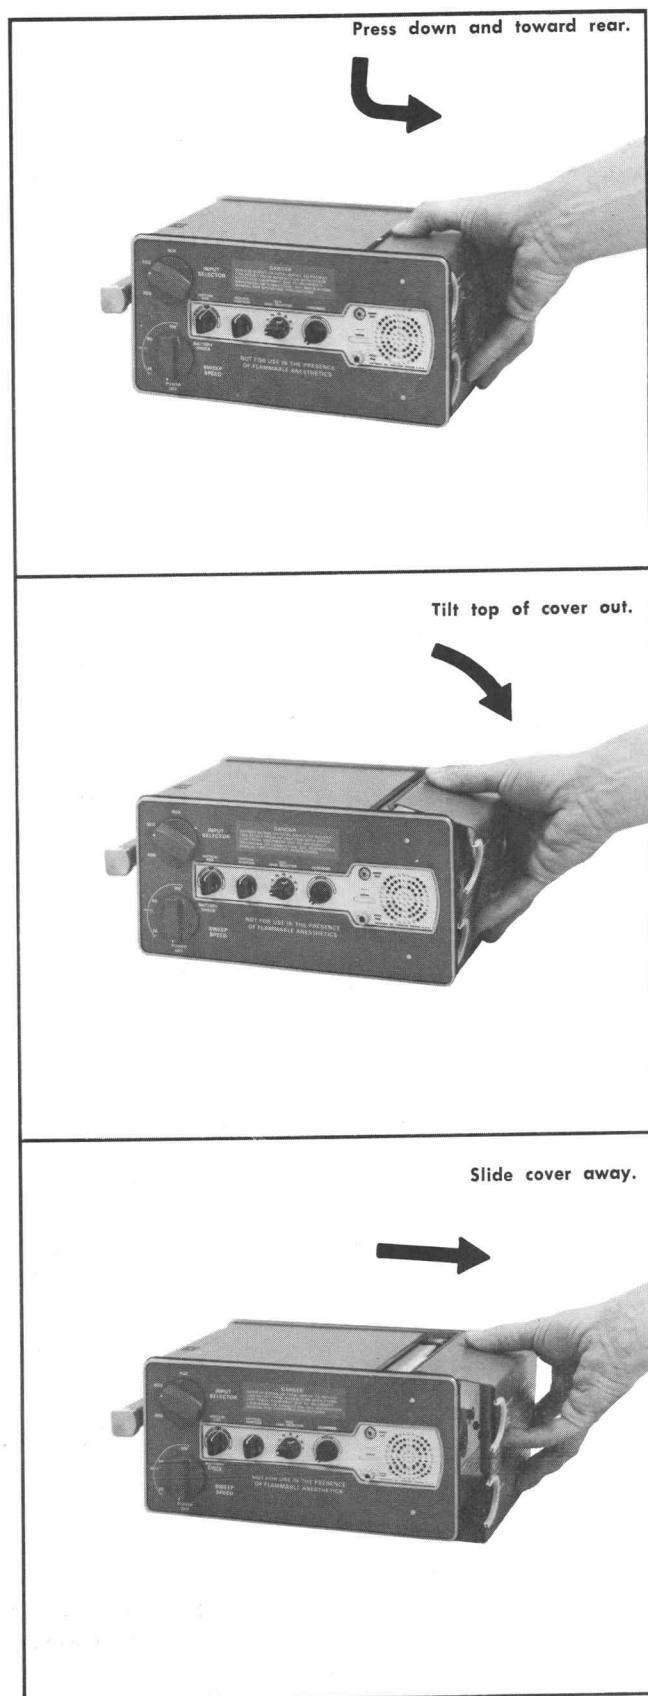

Fig. 2-8. Removing rear cover.
2. Remove the rear 'pop' cover as shown in Fig. 2-8.